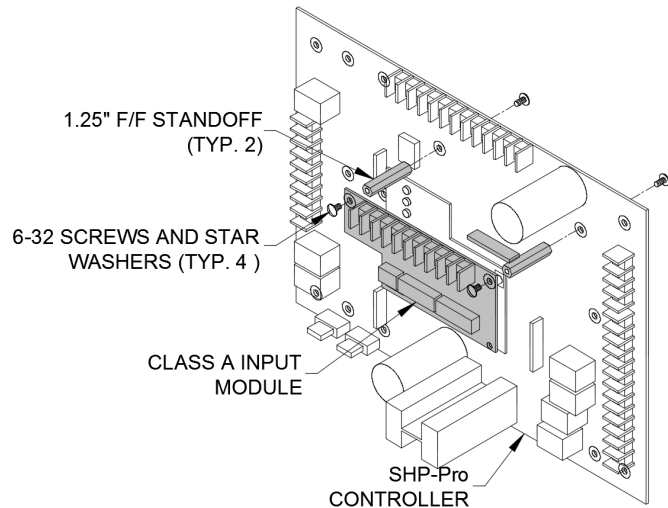

Figure 28 Class-A Input Module Mounting
Step 1 - Secure the two F/F hex standoffs onto the main control board with the screws provided, as shown in Figure 28.